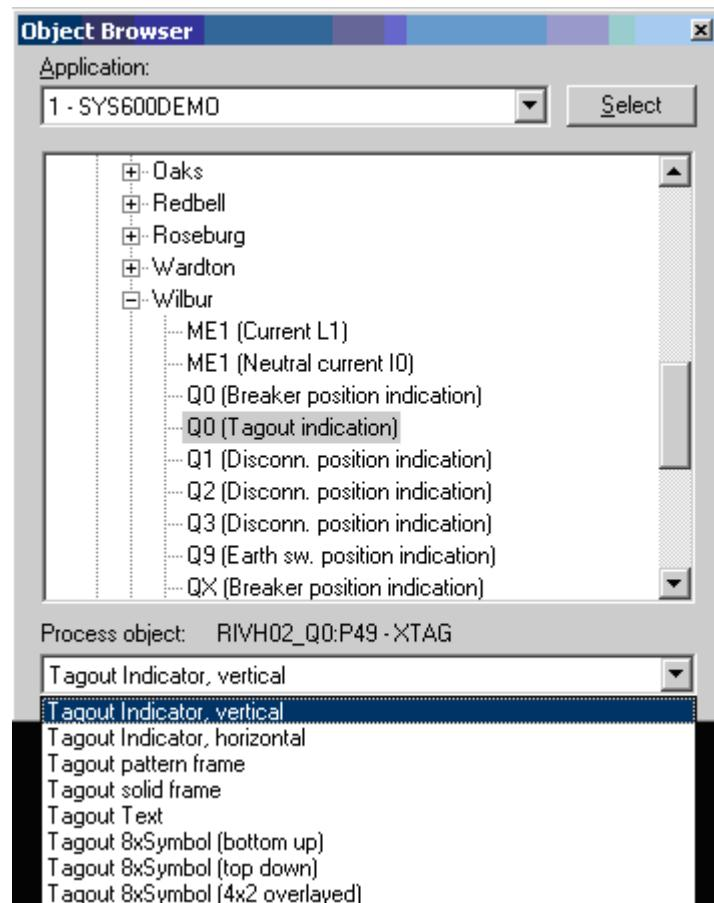

Figure 55: Tagout symbol single installation
2. Only the tagout symbol, with automatic creation and mapping of all used data variable. See Figure 55 below.